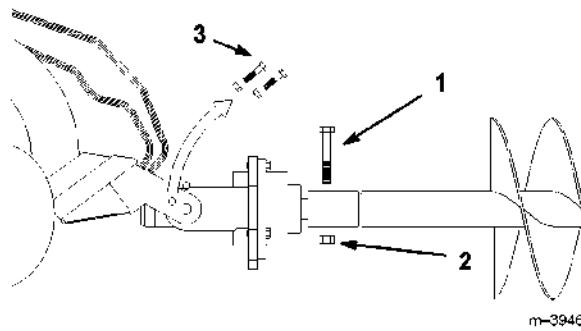

Figure 7
8. Secure the auger to the drive head with the 7/8"-9 x 4-1/2" bolt and 7/8"-11 nut (Fig. 7).
9. Remove the bolts and nuts from the cradle arms that were installed in step 3 (Fig. 7).